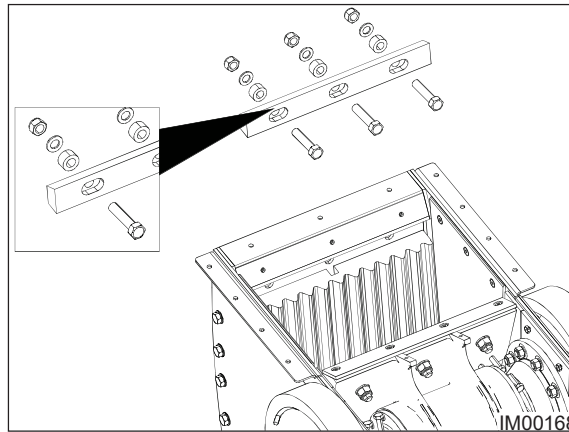

Fig: 11.28 - Retaining Wedge Removal
5. Remove the bolts in the jaw Retaining Wedge and lift the wedge out of position (Fig: 11.28). Inspect the retaining wedge and bolts and replace any components required. Discard the old locking nuts and replace with new.
15. Carefully, releasing the pry bar, place the jaw plate into the seated position and secure with the Retaining Wedge, Wedge Bolts, Spacers, Washers, and new Lock Nuts (Fig: 11.28) and secure into position.